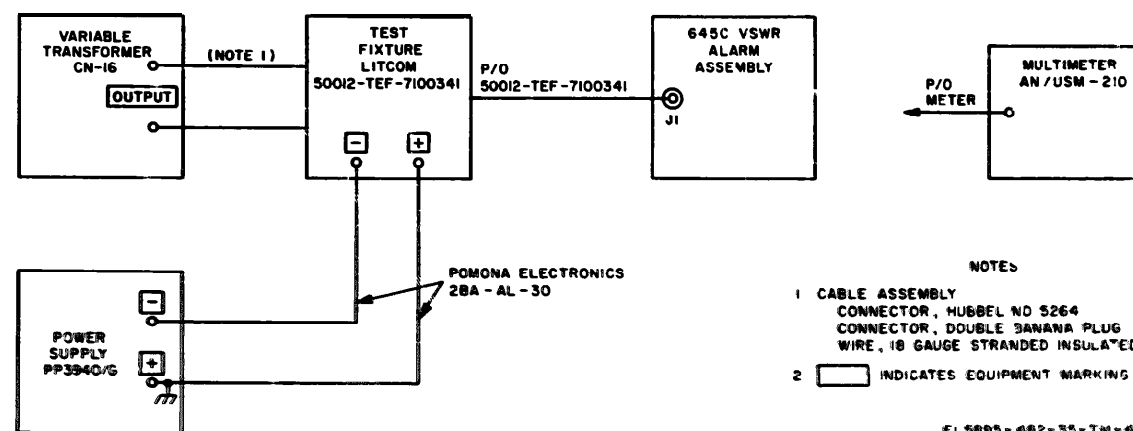

Figure 5-188 645C VSWR alarm alignment test setup diagram
- Connect the equipment as shown in figure 5-188 and perform the alignment as follows: